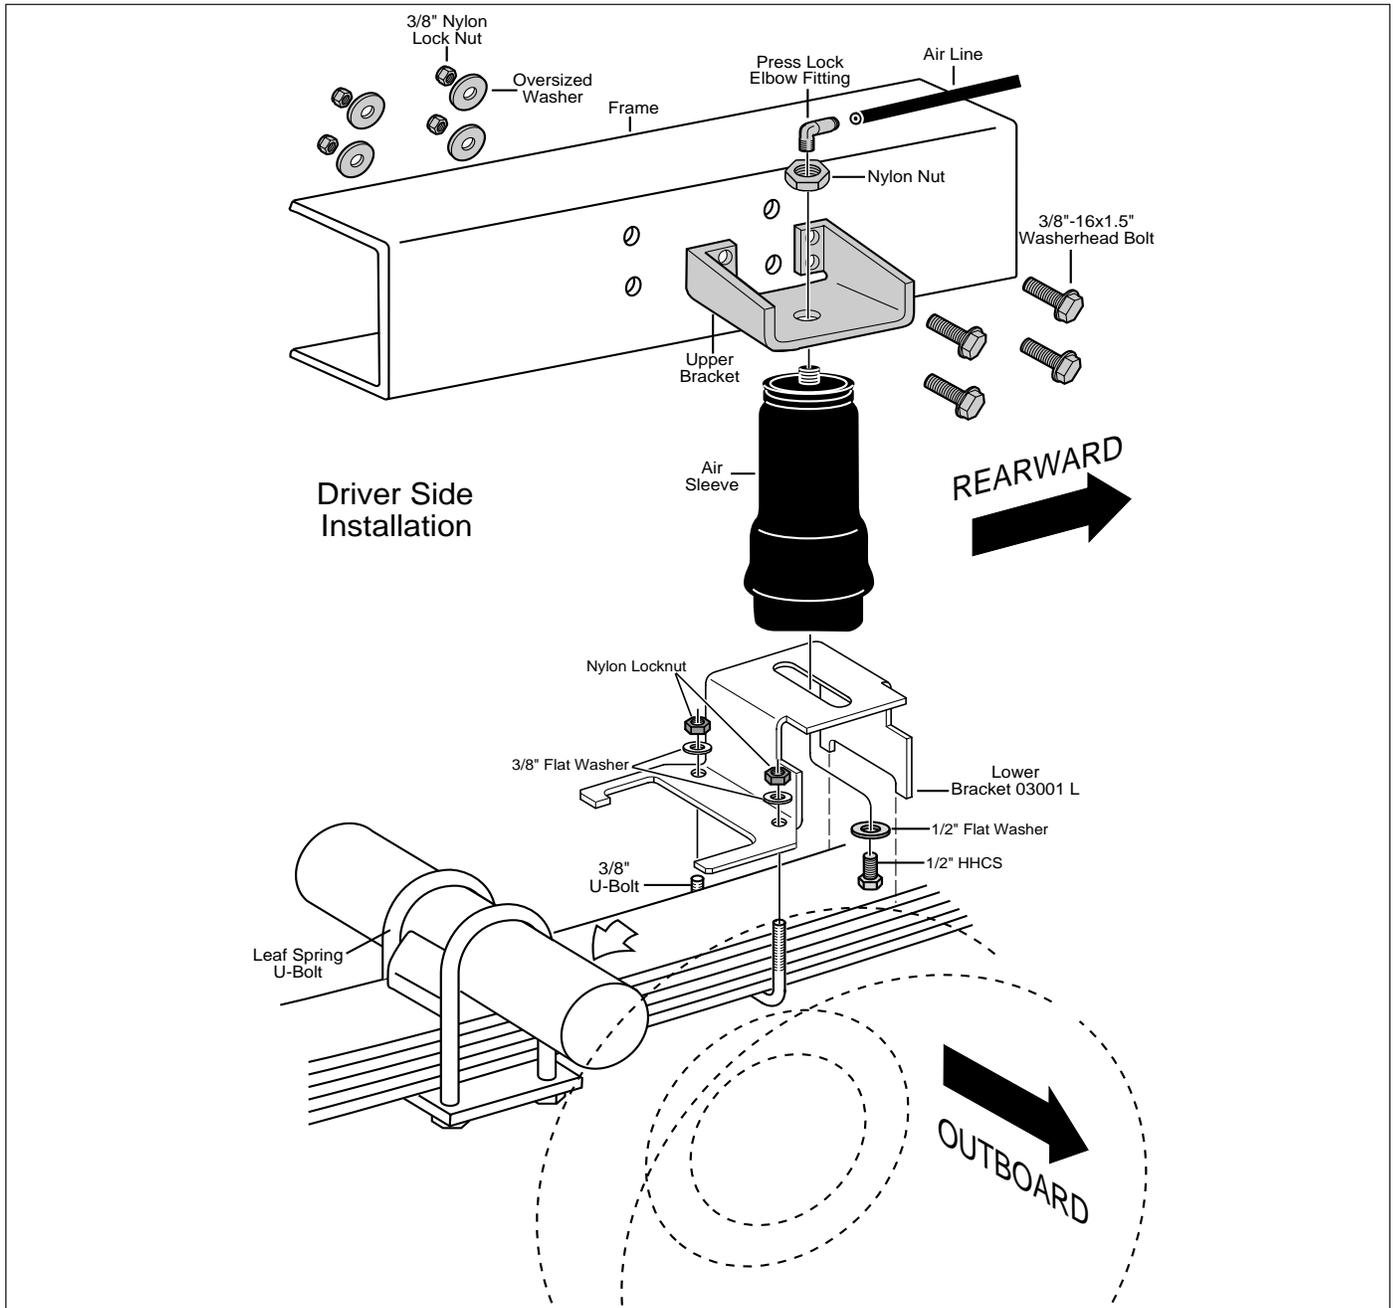
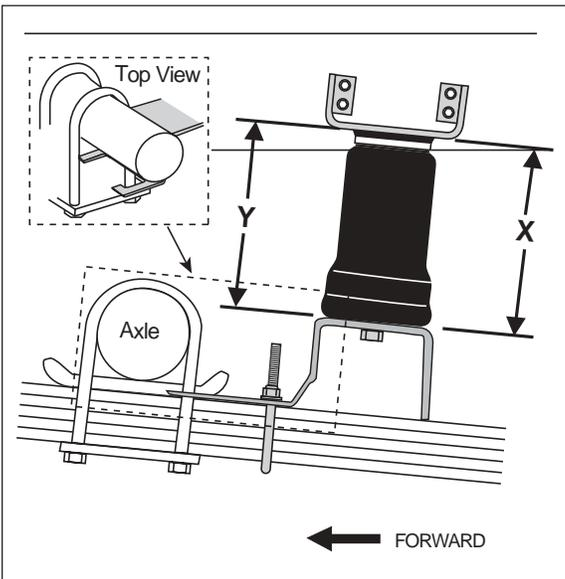

Figure 1
Figure 4
1. Set the preassembled bracket/tool assembly on the leaf spring behind the axle. Hook the C-shaped end of the lower bracket around the axle U-bolt, and secure the lower bracket to the leaf spring with the provided U-bolt, flat washers, and lock nuts (Figure 4). Torque to 16 ft-lbs.
2. Using the slot in the lower bracket, push the upper bracket against the frame rail. Use the nuts on the threaded portion of the installation tool to adjust the upper bracket so that the flanges of the upper bracket are flat against the frame rail and four mounting holes are on the flat middle section of the frame rail. The mounting holes must be at least 3/4" from the rounded edges of the frame rail. The brackets can be mounted anywhere within the threaded range of the installation tool (Figure 1).
- Using the bracket as a template, mark four holes on each side of the bracket to be drilled. The X and Y dimensions (Figure 4) should be equal. The sleeve should be mounted so that it follows the natural arc of the suspension through its full travel (Figure 1 & 4). Remove the upper bracket and installation tool and drill the four $\frac{3}{8}$ " holes.
- Orient the fitting so that it faces in the direction of the intended air line route. Install the upper bracket onto the frame rail using the $\frac{3}{8}$ " washer head frame bolts, large flat washers, and nylon locknuts provided in the kit. Tighten 20 ft-lbs. (Figure 1).